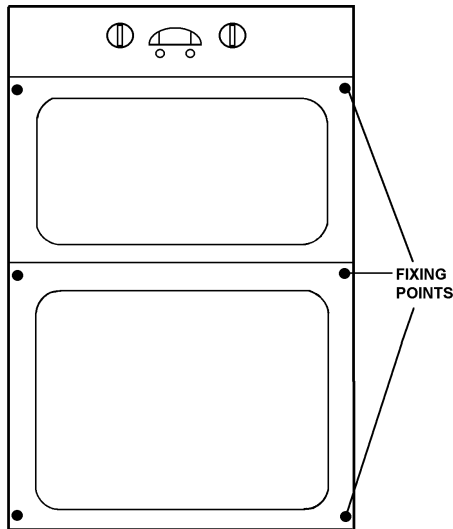

Fig.2
- 10 Centralise and fix the appliance using the six wood screws provided, in the position indicated in Fig.2.
- 8 Centralise and fix the appliance to the cabinet using six wood screws in the position indicated in Fig.2.